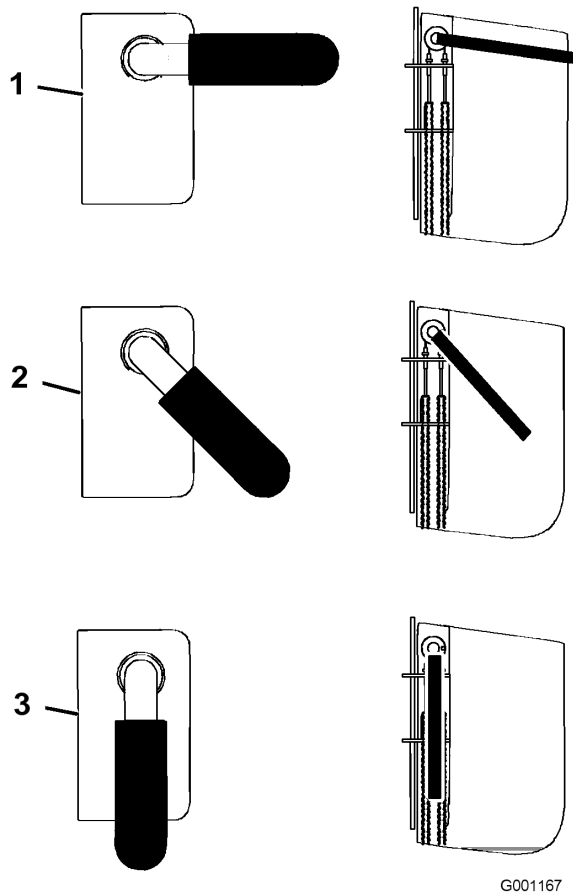

Figure 8
- Rotate the chute gate handle to the open position to allow grass clippings to discharge (Figure 8).
- Rotate the chute gate handle to the 45 degree angle to deflect the grass clippings (Figure 8).
- Rotate the chute gate handle to the closed position to stop the grass clippings (Figure 8).